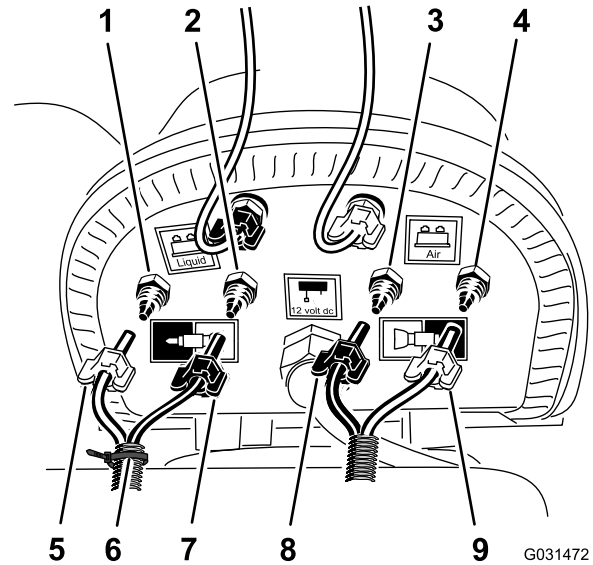

Figure 24
the clear and blue tubing for the right-spray section (**Figure 24**).
2. Loosen the compression nuts for the 2 clear and 2 blue tubes for the foam nozzles at the left- and right-spray section (**Figure 24**).
3. Remove the 4 tubes from the compression fittings for the spray sections (**Figure 24**).